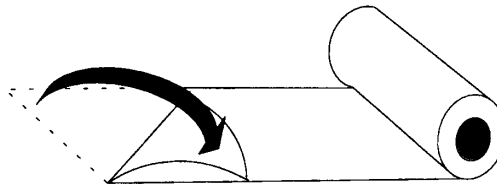

Figure 1-4: Loading the paper
- 2 Remove the plastic cover over the cradle for the thermal paper and orient the roll so that the paper feeds from the bottom. Fold the left corner back so that the right corner forms a point (Figure 1-4).